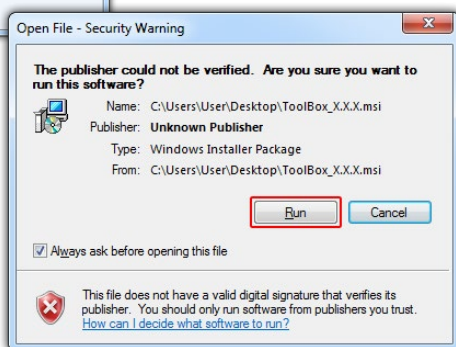

Fig 2
- A** Double-click on the extracted .msi install file. This will launch the ToolBox installer. Depending on your security settings, a 'Security Warning' dialogue may appear (Fig 2).